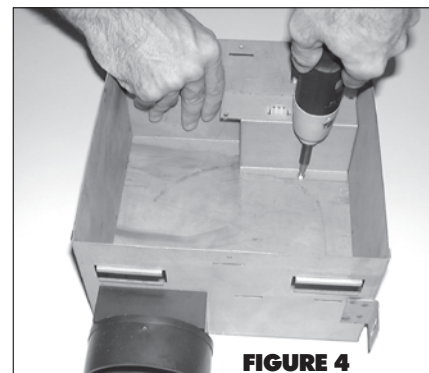

FIGURE 4
4. Remove screw that holds electrical box cover. (Fig. 4)